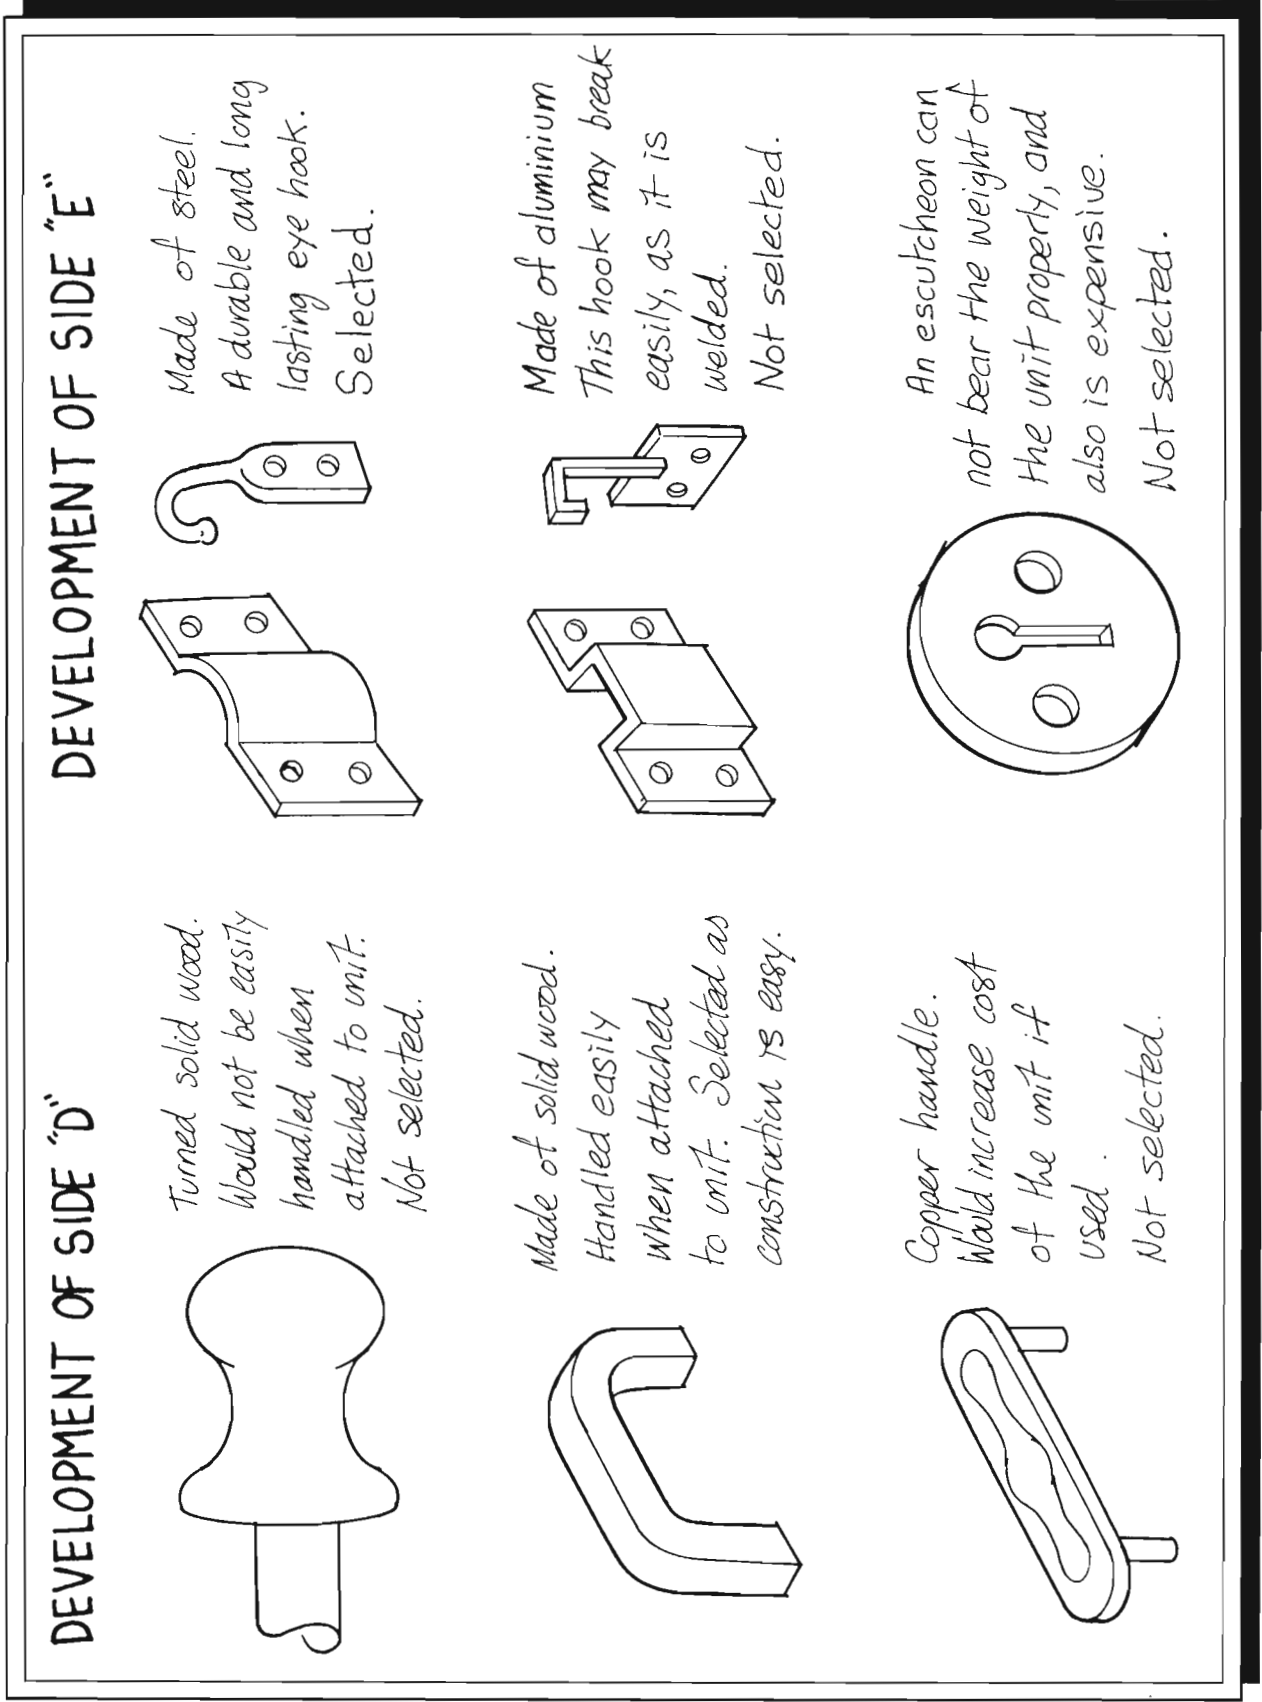

Figure 17.22 Example 3: development: choice of fittings.
4. Final solution (Figure 17.22): note how the proposed unit is portable but lacks a lid.